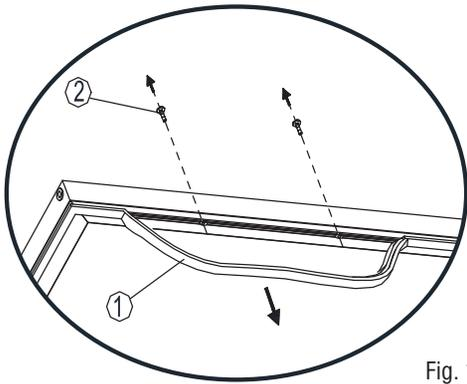

Fig. 1
- 1) Pull away the door gasket in the area where the handle is to be installed on the left side as shown below in Fig. 1. The gasket is easily displaced by hand, no tools are necessary.